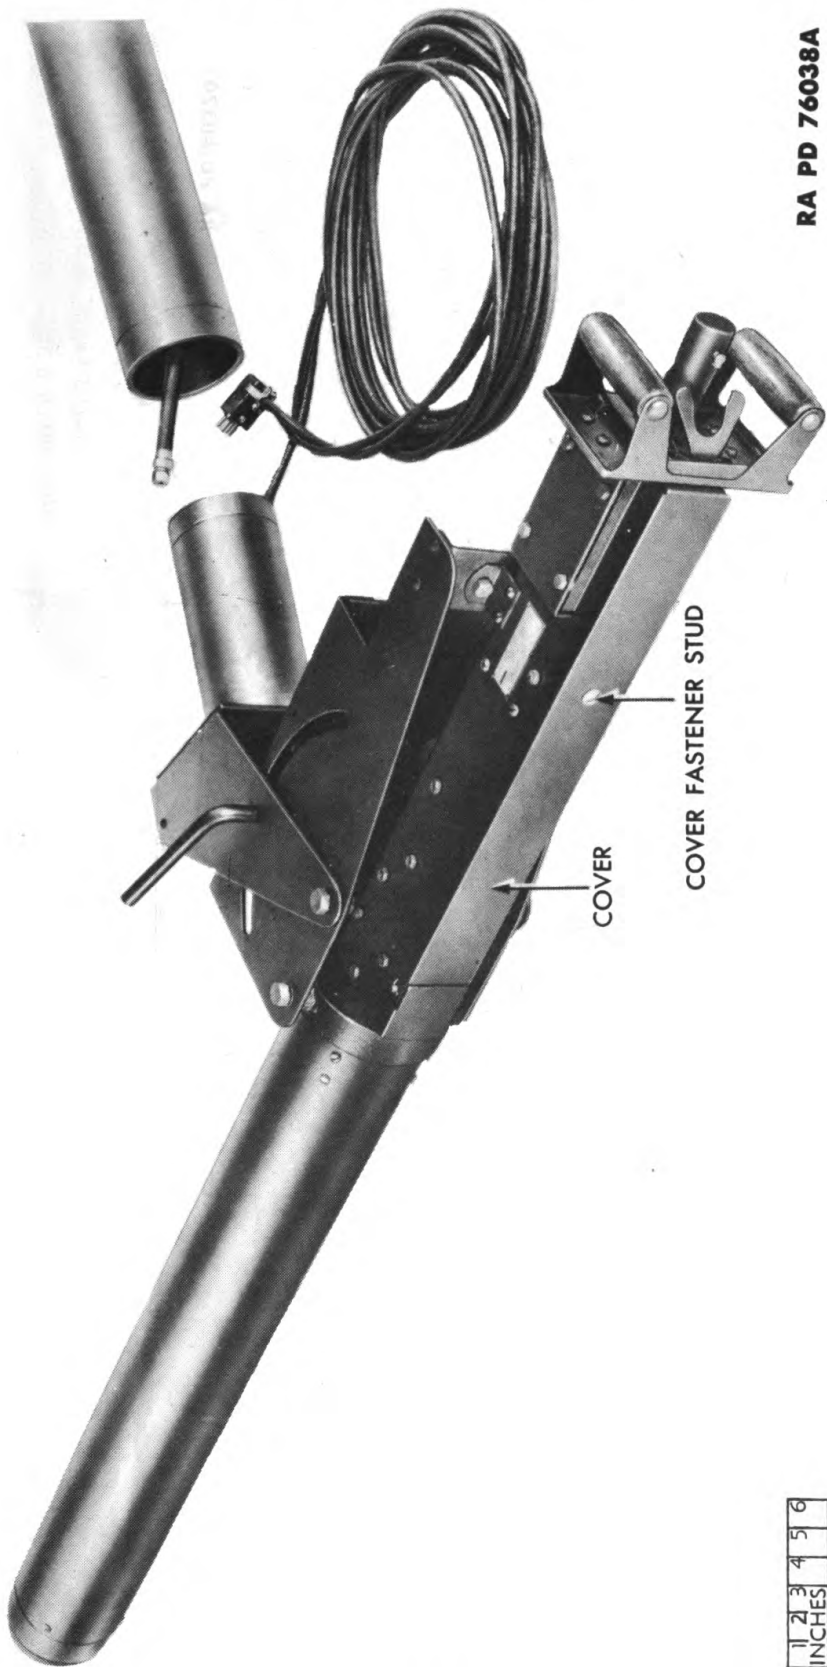
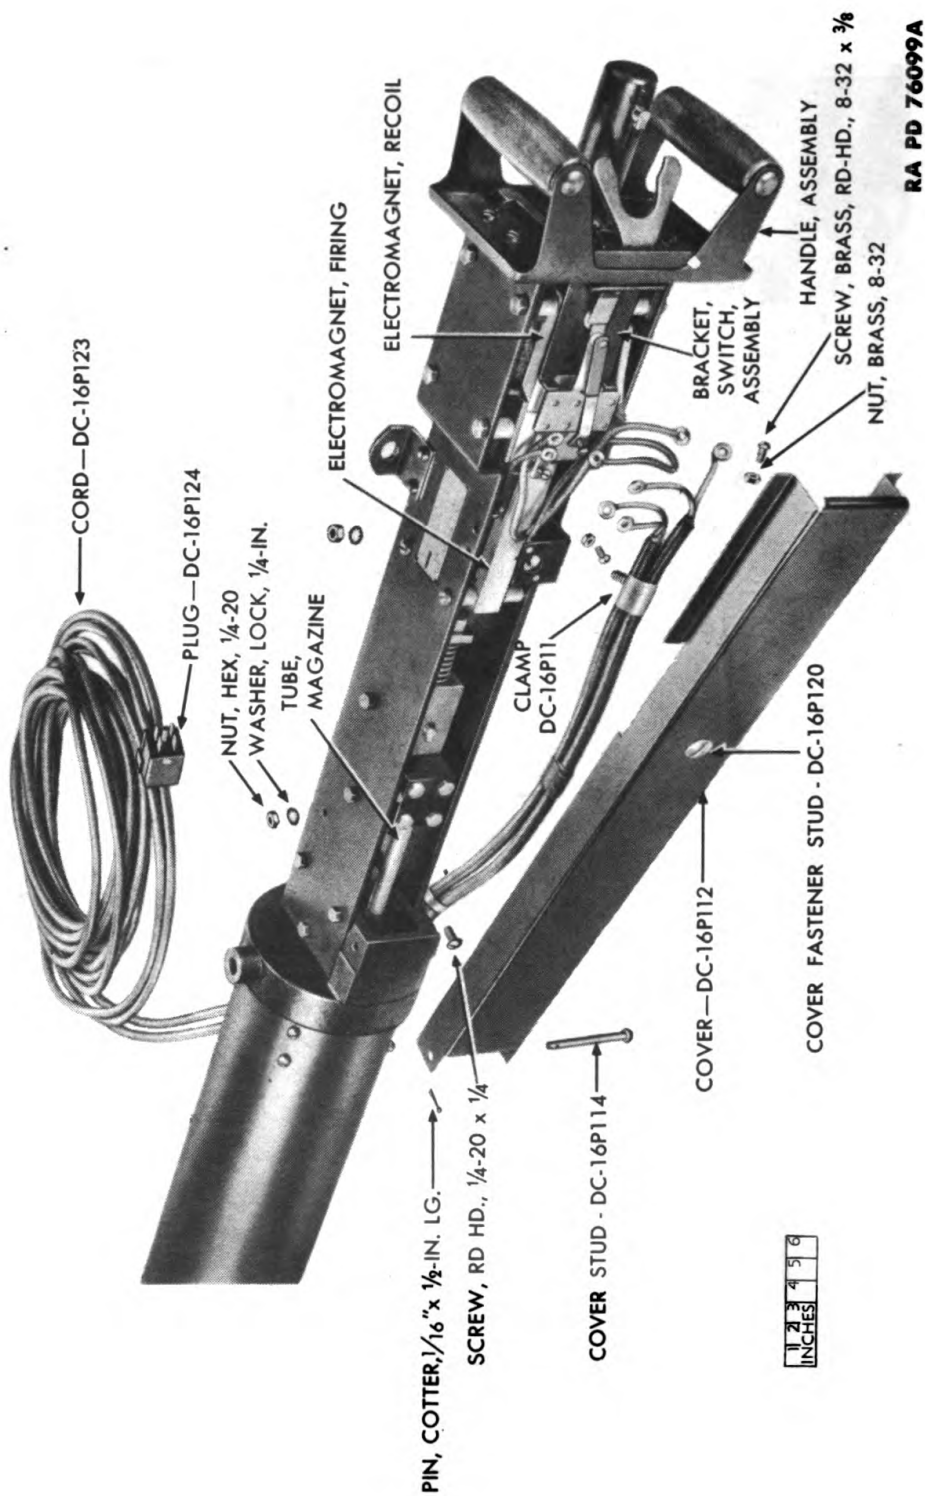

Figure 108 — Gun — Tripod and Air Hose Removed
Figure 109 — Gun — Cover Removed and Cord Disconnected
(2) Disconnect air hose and ultraviolet lamp from gun. Remove gun from tripod (fig. 108).
(3) Remove the gun from the cradle by removing the mounting bolts. Disconnect the yoke from cradle.
(4) Turn the cover fastener stud, lift the cover, and disconnect it. Remove the wires from the switch bracket assembly by removing the terminal screws on the contact strips (fig. 109).